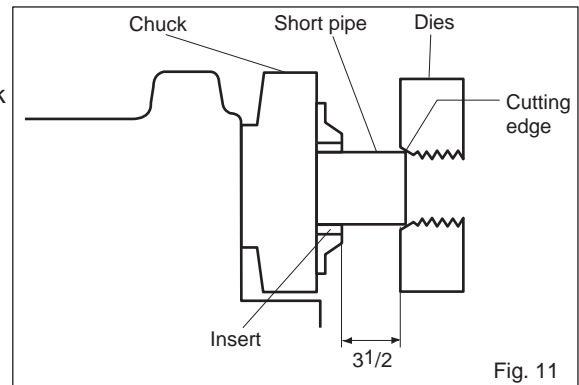

Fig. 11
- Lightly grip the pipe with the chuck, gently engage the dies with the end of the pipe to be threaded, and then tighten the hammer chuck again. (Fig. 11)
Note: Chuck the pipe with the pipe protruding at least  $3\frac{1}{2}$  from the edge of the chuck jaw insert. (Fig. 11)